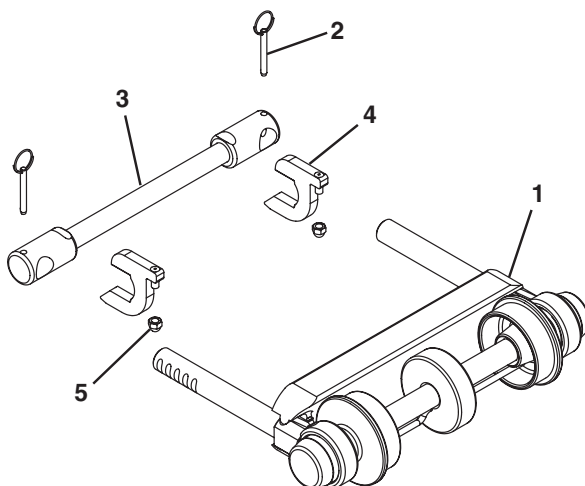

Figure 25
Typical Tip Up Tail Components (Figure 25)
Adjust the acorn nuts (Figure 25, item 5) on the key stops (Figure 25, item 4) to raise or lower the tip up tail assembly.